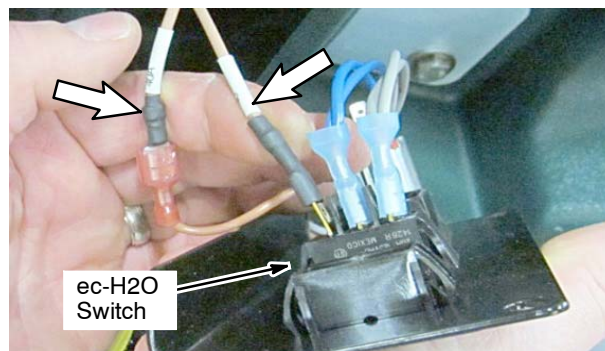

FIG. 8
9. Disconnect telemetry harness wires, Tan/40 and Tan/40A, from the ec-H2O switch (FIG. 8). If machine is not equipped with an ec-H2O switch, the two wires will be unused and have electrical tape covering the terminals.